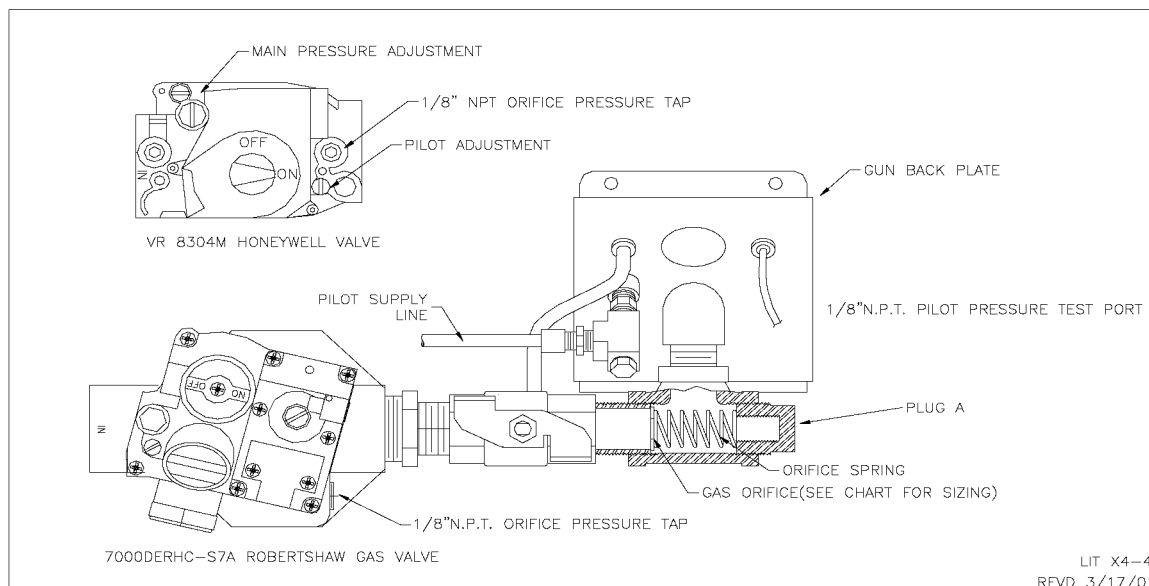

Figure 4: Location of Side Orifice
- 5.9 Check that side orifice size is correct according to burner specification sheet (**See Figure 4**). To gain access to orifice, remove Plug A and withdraw spring and orifice. When reinserting or replacing the orifice, ensure that it seats properly inside the tee and reinstall plug.